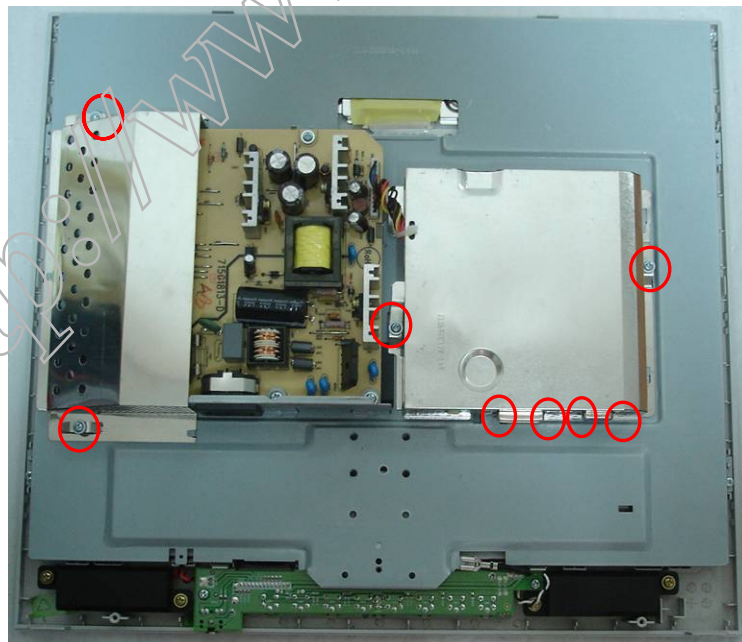

Fig.6
6. Remove the shields of the main board and power board as Fig.6.
Remove the 8 screws as Fig.6 to remove the shields.